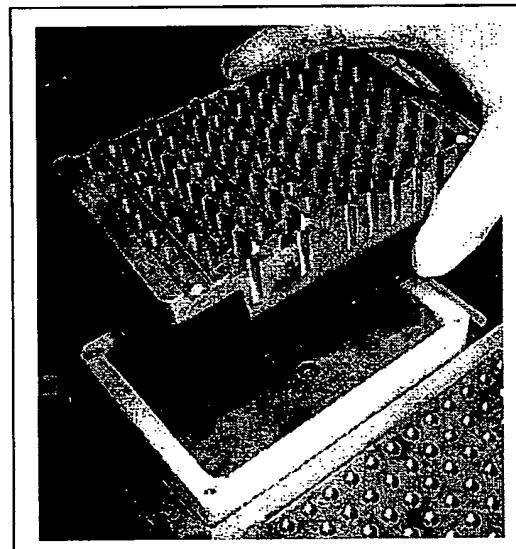
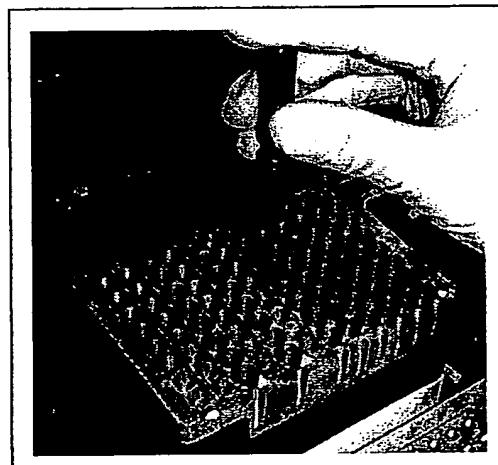

Figure 4.19
Figure 4.20
2. Assemble the Peltier adaptor and prechilled cold block. Ensure that the unit is securely tightened. Refer to Figure 4.19 and Figure 4.20.